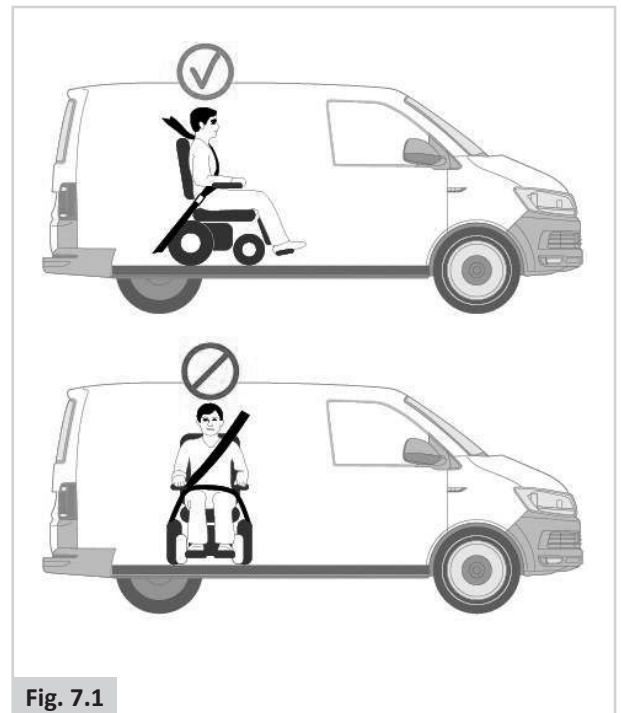

Fig. 7.1
- The wheelchair should be secured in a forward facing direction. This wheelchair is approved for use in cars and meets the requirements for forward facing transport and head on collisions. The wheelchair has not been tested for other positions in a vehicle (Fig. 7.1).